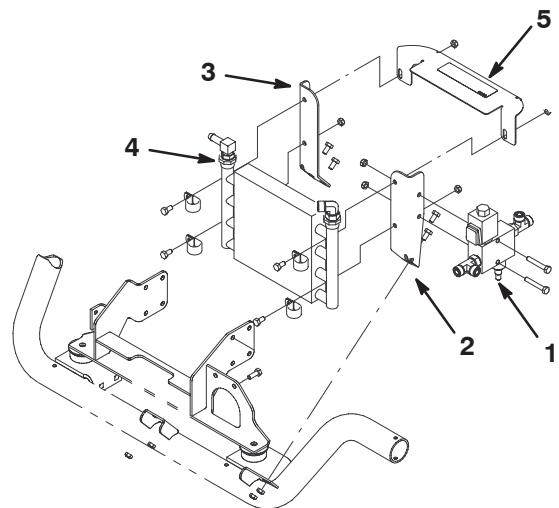

Figure 11
25. Mount the hydraulic manifold w/fittings to the left hand cooler bracket with (2) 5/16-18 x 2" bolts and lock nuts (Fig. 11).
26. Loosely mount the L.H. bracket to the left side of the frame cross member with (2) 5/16-18 x 7/8" bolts and lock nuts (Fig. 11).
27. Loosely mount the R.H. bracket to the center of the frame cross member with (2) 5/16-18 x 7/8" bolts and lock nuts (Fig. 11).
30. Loosely mount the cooler R-clamps and the shroud to the left and right brackets with (4) 5/16-18 x 7/8" bolts and lock nuts (Fig. 11). Do not tighten as this time.
32. Tighten the bolts and the lock nuts securing the R-clamps, left and right brackets and the shroud (Fig. 11).